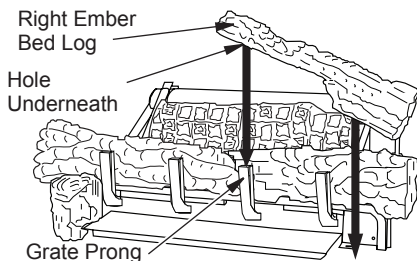

Figure 29 - Installing Right Ember Bed Log
5. The right ember bed log 24" & 30" (D-047) has a hole in the log that sets on the grate finger and the other end rest on the fireplace floor, place log as shown in **Figure 29**. The right ember bed logs for 18" (D-072) has a groove on the side that sets on the ember bed pan and the back of the log needs to rest against the front of the base. Make sure the flame from the ember pan does not touch the ember bed log. The back side of this log needs to rest against the front of the base assembly, make sure the flame from the ember pan does not touch the ember bed log.